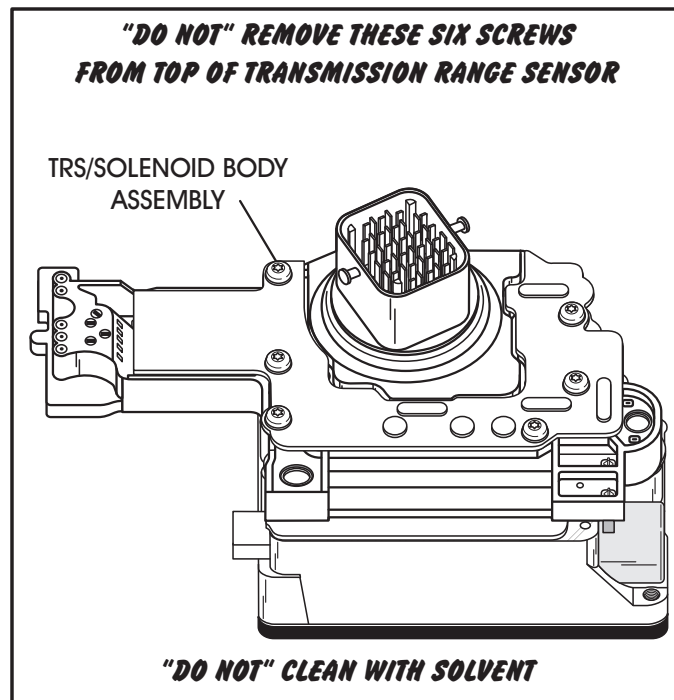

Figure 99
2. **Do Not** remove the six screws from the top of the TRS/Solenoid Body (See Figure 99).